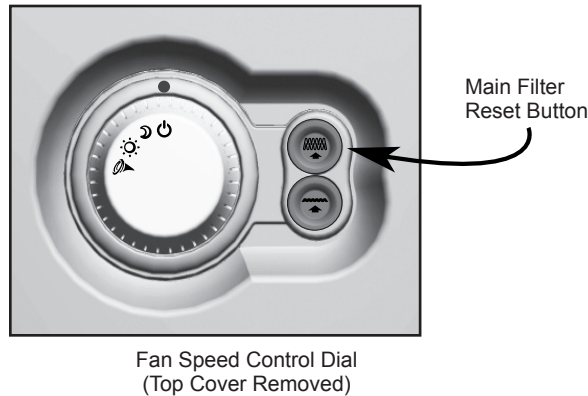

Fig. 9 - Resetting the Main Filter Life Counter
3. Reset the Main Filter Life Counter by pressing the Main Filter Reset Button. See Figure 9.